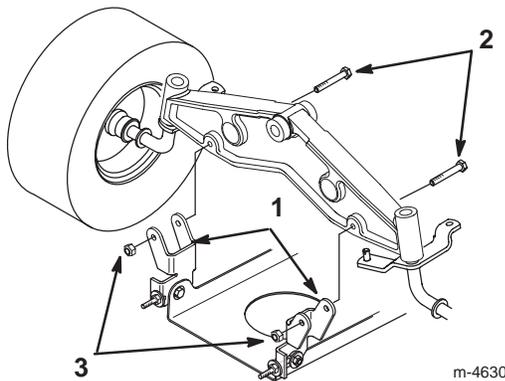

Figure 42
- Install the mower pivot mount brackets to the front axle with bolts and locknuts (Fig. 42).